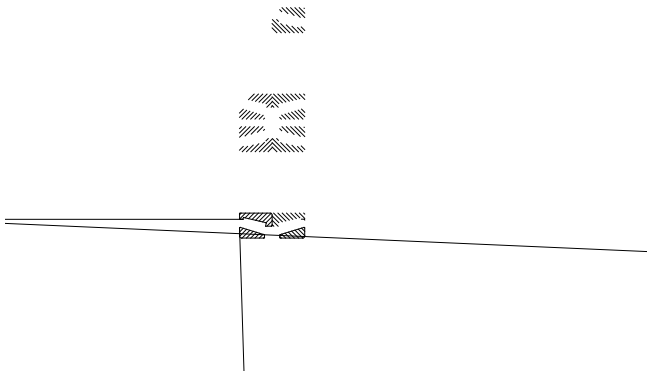

Figure 25
- Using a depth micrometer or similar device measure any difference (X) in rotor front face alignment, see Figure 25. If a difference is found move shims (5.04) of thickness equal to the difference (X) from beneath the forward rotor's bearing retainer (5.06) and reposition under the front bearing (5.05) cup.